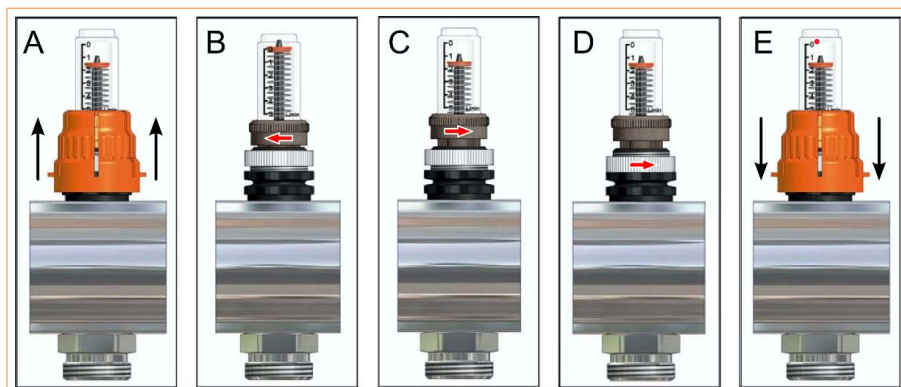

Fig. 1: Flow Meter adjustment and block.
1. Remove the orange cover as in Fig.1-A;
2. Set the flow meter in closure position by turning the upper lock ring in the direction indicated by the arrow in Fig.1-B; NB: in closure position, the indicator points a null flow-rate;
3. Open the device by turning the same lock ring in the opposite direction (Fig.1-C), and check the correct flow rate through the spyglass;
4. Screw the lower lock ring in the direction indicated in Fig.1-D, until mechanical stop;
5. Put back the orange cover (Fig.1-E);